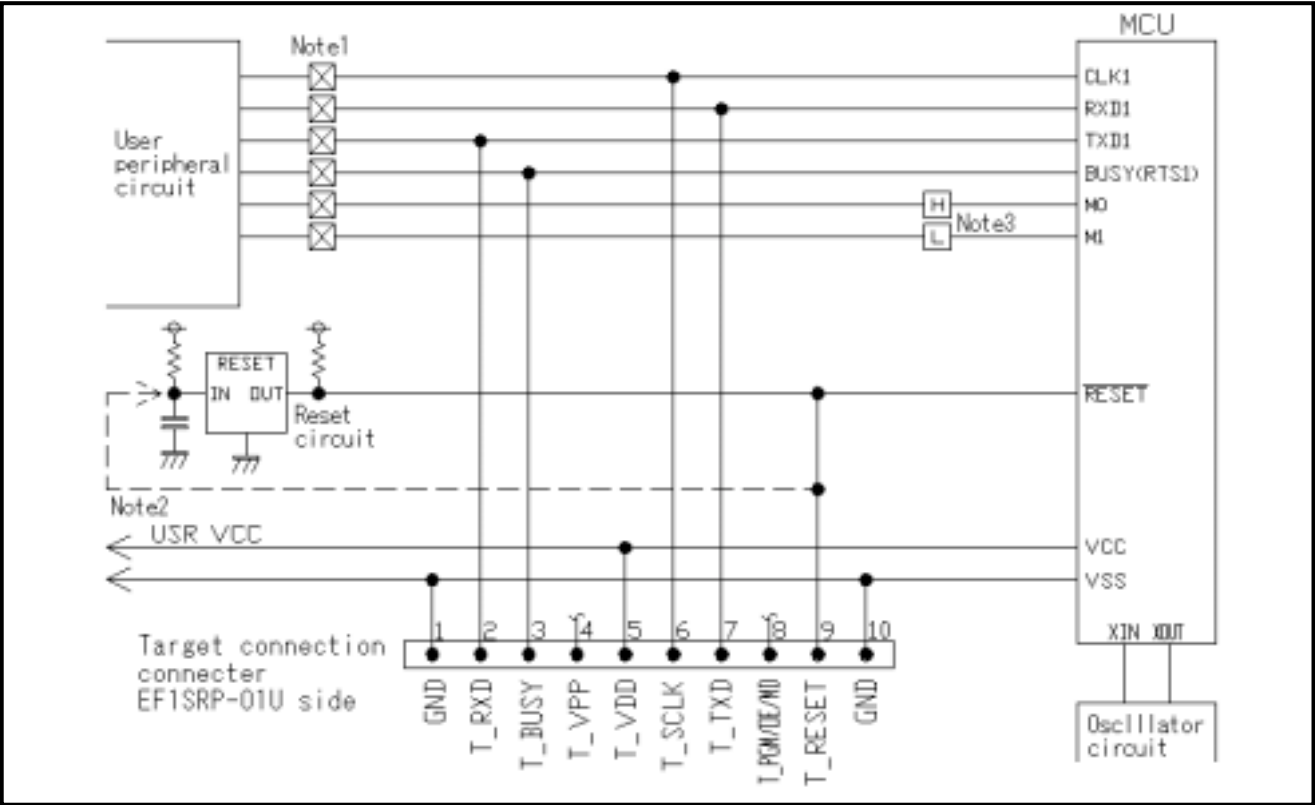

Fig. 4.1: Target MCU Peripheral Circuit Example
(1) An example of target MCU peripheral circuit when using the M16C/6K7 Series is shown in Figure 4.1.